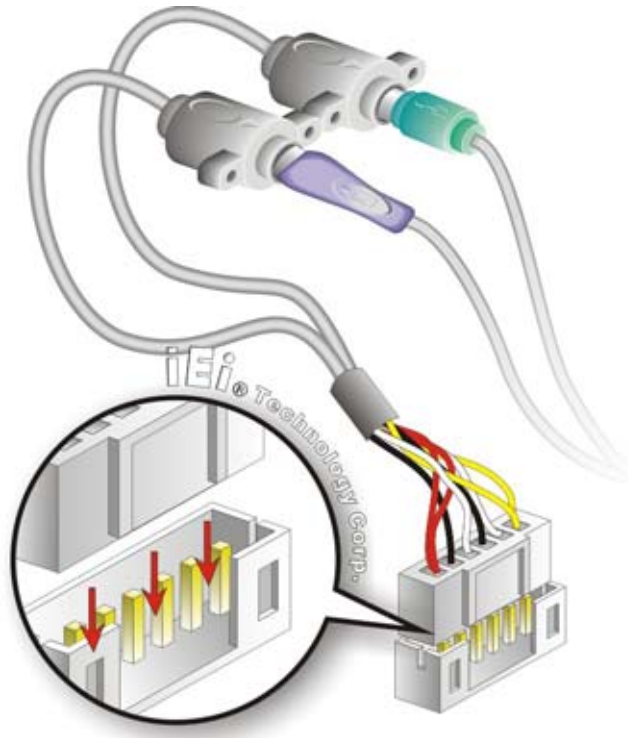

Figure 4-10: Keyboard/mouse Y-cable Connection
Step 2: Align the connectors. Correctly align pin 1 on the cable connector with pin 1 on the KINO-9653 keyboard/mouse connector. See **Figure 4-10**.
Step 3: Insert the cable connectors Once the cable connector is properly aligned with the keyboard/mouse connector on the KINO-9653, connect the cable connector to the on-board connectors. See **Figure 4-10**.